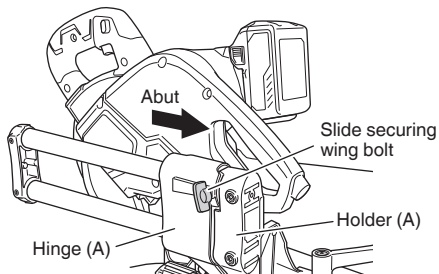

Fig. 46
- (1) Abut the hinge (A) on the holder (A) and tighten the slide fixing wing bolt. (Fig. 46)